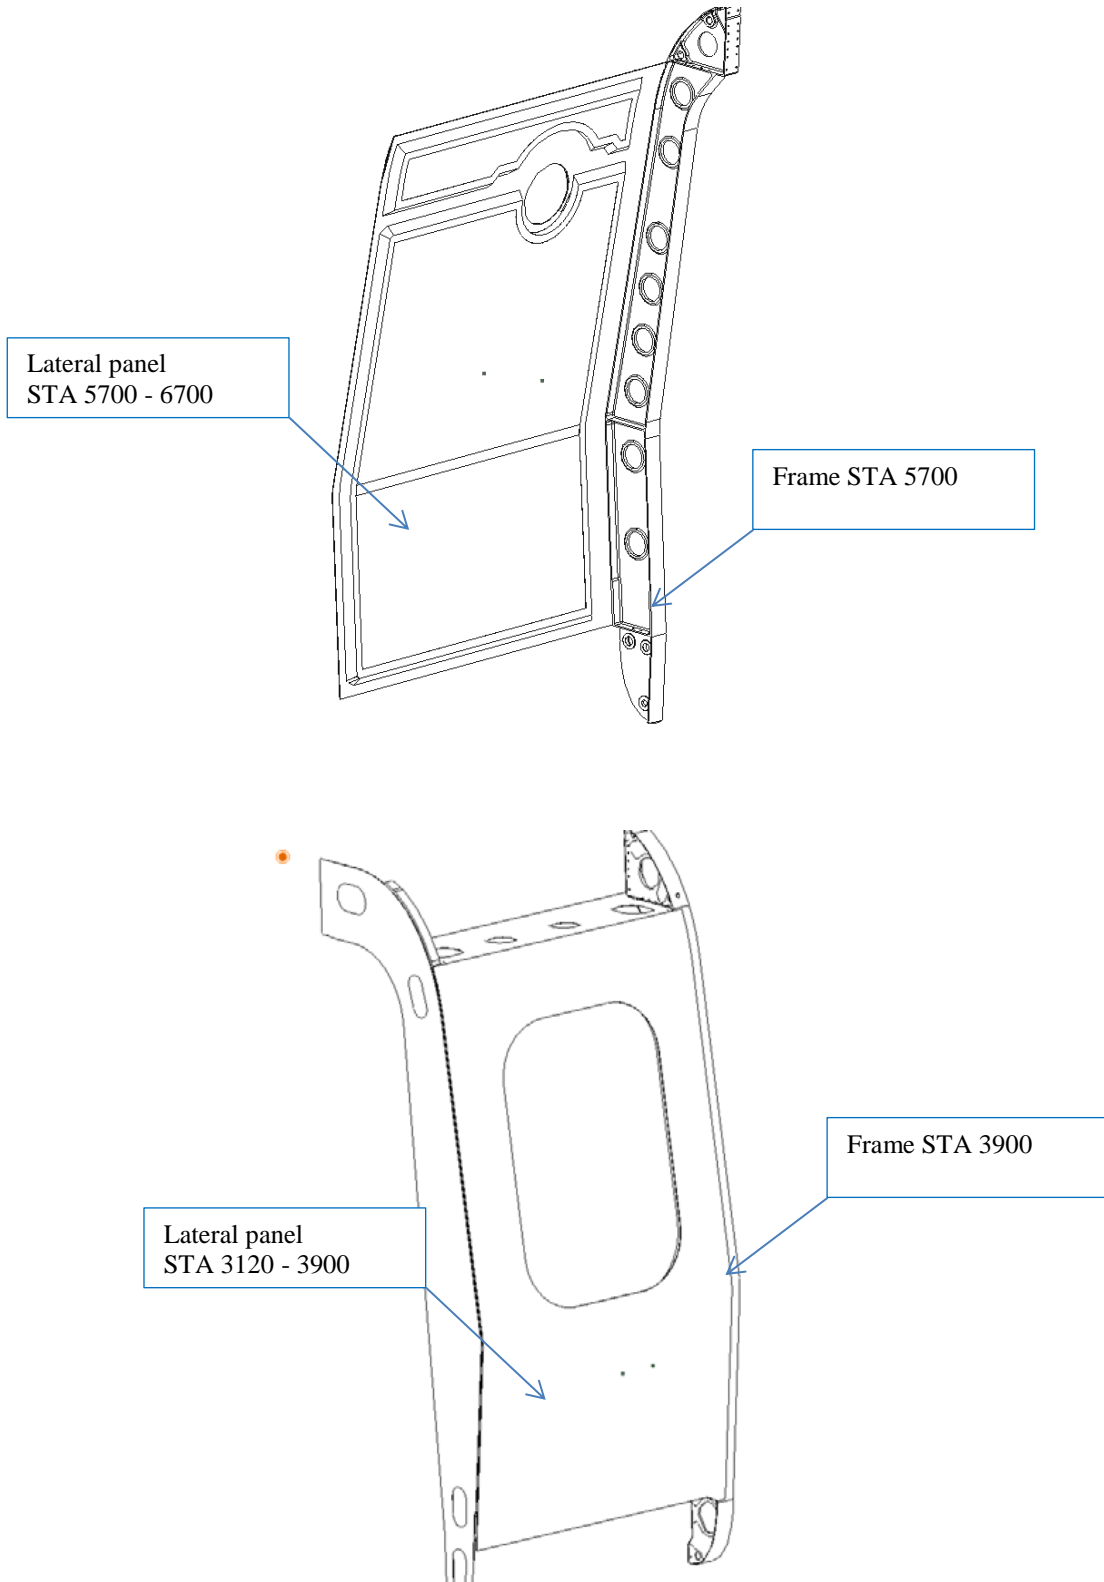

Figure A-1
- 1.1 the joints between lateral panels STA 5700 – 6700 and frame STA5700 (3P5338A0033x/43x) and the joints between panels STA 3120 – 3900 and vertical frames of sideswalls - see Figure A-1;